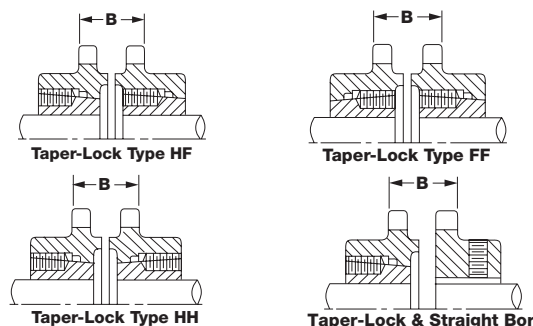

Figure 1 - "B" Dimension
- Shaft separation for the Dodge chain coupling should be set per appropriate "B" dimension in Table 2. "B" dimension is illustrated in Figure 1.